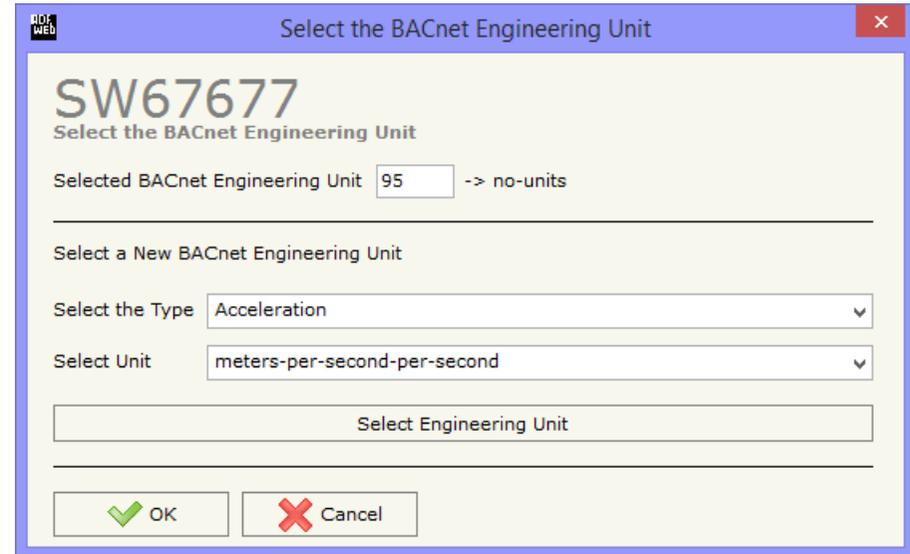

Figure 9: "Select the BACnet Engineering Unit" window
- In the field "**Eng. Unit**", with double click the window "*Select the BACnet Engineering Unit*" appears (Fig. 9);